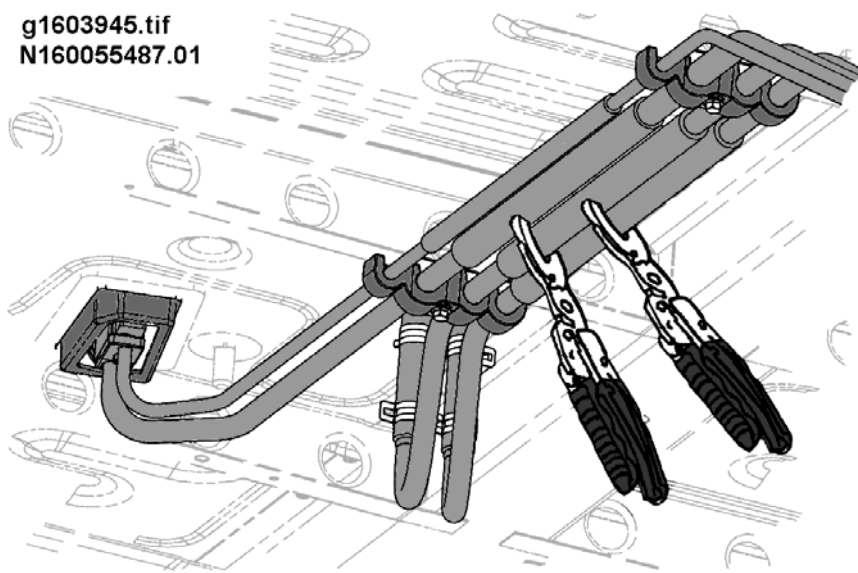

Figure 45 Heater/AC Lines Clamped Under Cab
3. Under the cab, use clamping pliers to pinch both heater hoses closed (Figure 45). To prevent damage to the heater hose, place the clamps in the long rubber section of the lines several inches from the metal/rubber joint.